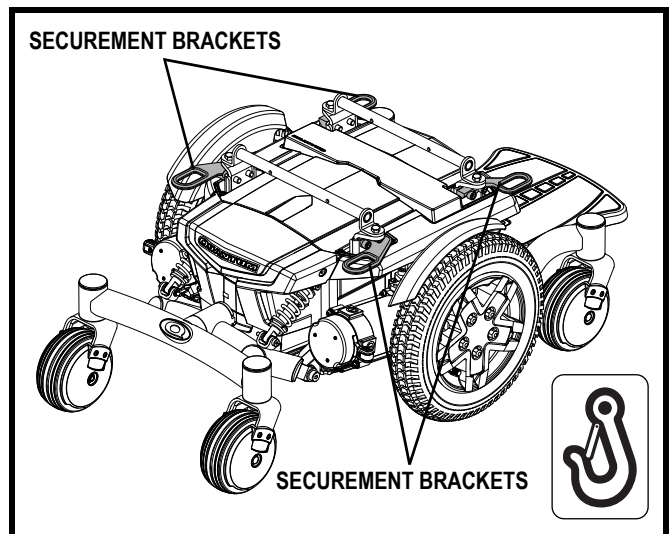

Figure 10. Transit Securement Brackets
If your power chair is equipped with a transit securement system, it is equipped with manufacturer-installed front and rear securement brackets and positioning belt anchoring brackets. See figure 10. Refer to the supplement provided with your power chair for information on how to use the transit securement system.
- Attach the four tie-down straps only to designated, labeled transit securement points indicated by anchor symbols on the power chair. See figure 10. Tighten the straps to sufficiently remove all the slack.